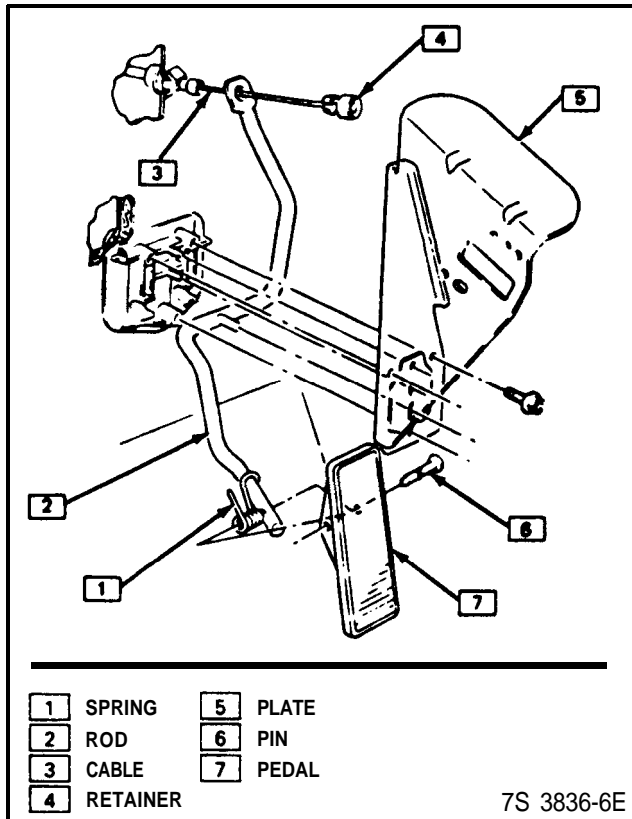

Figure 9 - Accelerator Control Pedal, Passenger Compartment
- Slip accelerator control cable through slot in rod and then install retainer in rod, being sure it is seated. Care must be utilized in pressing the retainer into hole in rod to assure the cable is not kinked or damaged in any way (figure 9).